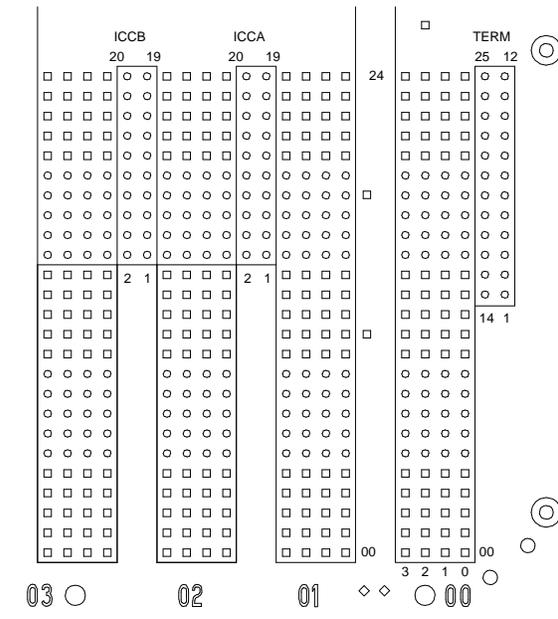
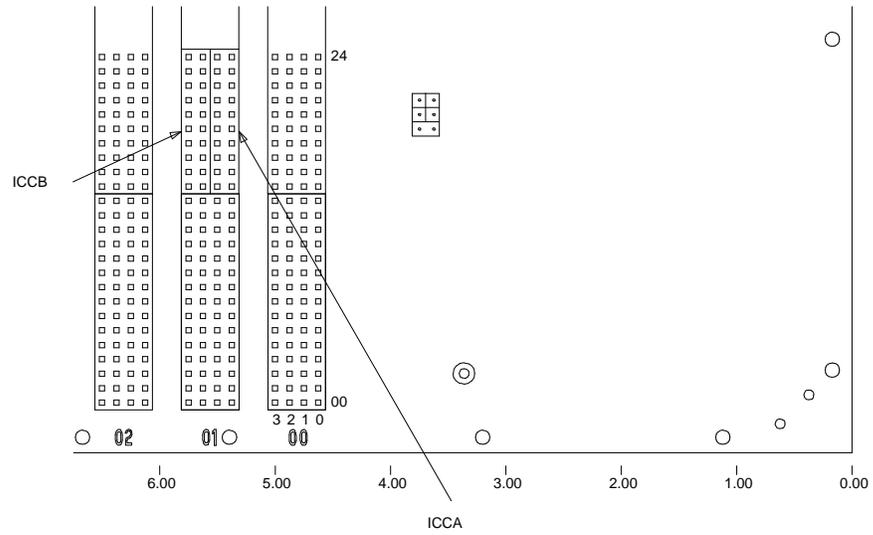

Figure 2-23. ICC Pin-Field Blocks on J58890N Expansion Control Cabinet
Figure 2-24. ICC Pin-Field Blocks on J58890H Port Cabinet
2. Connect the ICC cables as shown in Table 2-4 and Figure 2-23 and Figure 2-24.
3. On the "A" carrier, verify the CFY1 current limiter (CURL) is properly connected to pin-field block "00" (see Figure 2-23). The CURL's components should be on the left side as viewed from the rear.